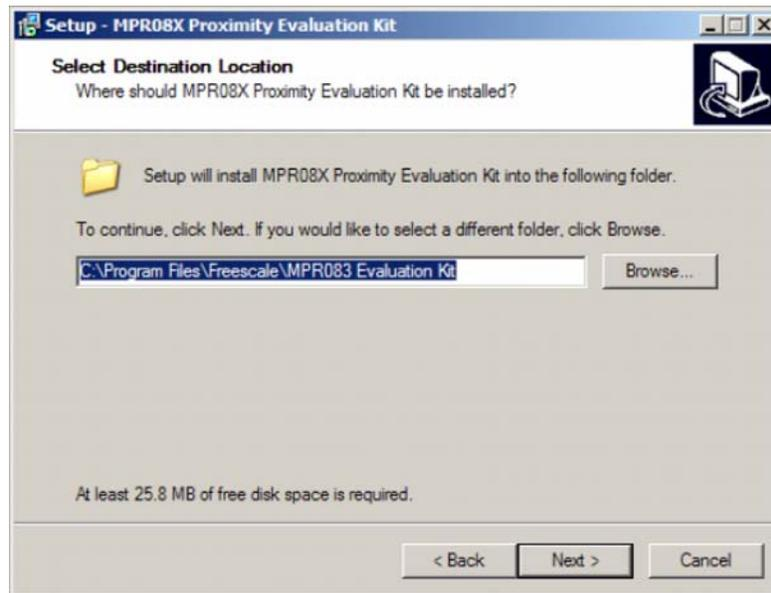

Figure 3. Destination Folder
3. The user must leave the destination folder as specified. Select “Next” (Figure 3).